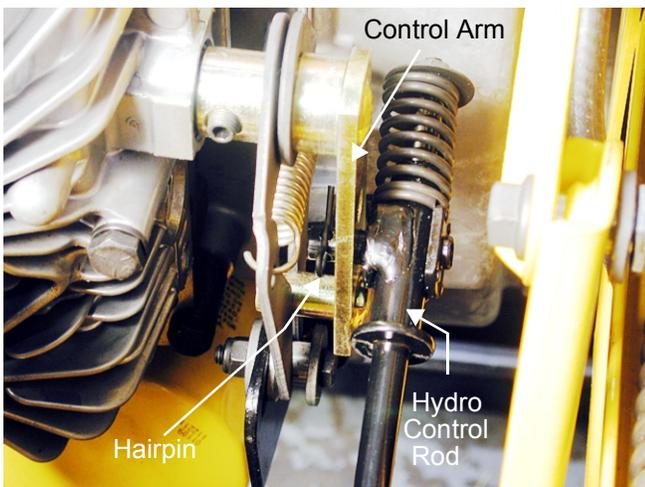

Figure 5
12. Remove the hairpin securing the hydro control rod assembly to the BDU-10L's control arm assembly using needle nose pliers. See Figure 5.